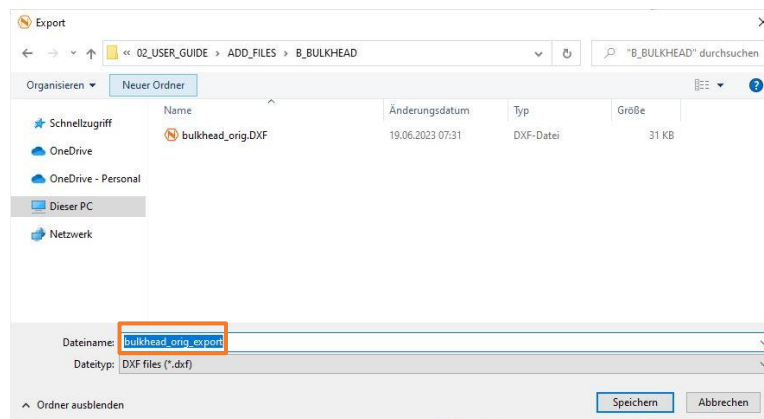

Figure 130
12. NestKing uses the original DXF file name as default export file name. In case our default export format is also DXF the default export file name will be extended by “_export” (Figure 130). This prevents accidentally overwriting the original DXF file.